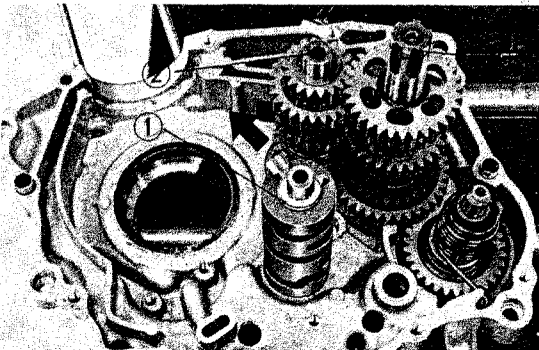

Fig. 93 Direction of drum installation
- 3) Subassemble the main shaft and counter-shaft, and then assemble the subassembly into the case. (Fig.93)